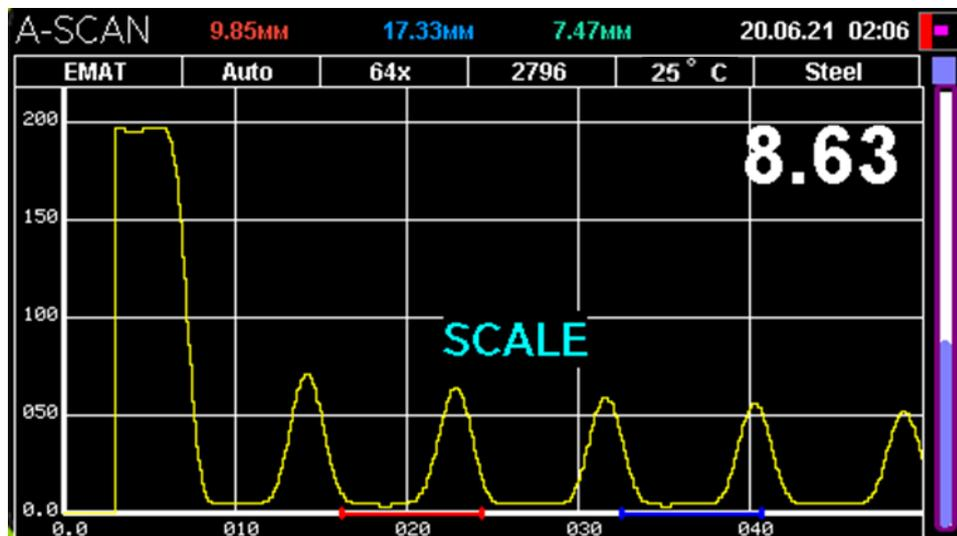

Figure 3.2 – A-scan scale change mode
3.2.2.1 Press the  or  button. In this case, SCALE appears on the screen (Figure 3.2).